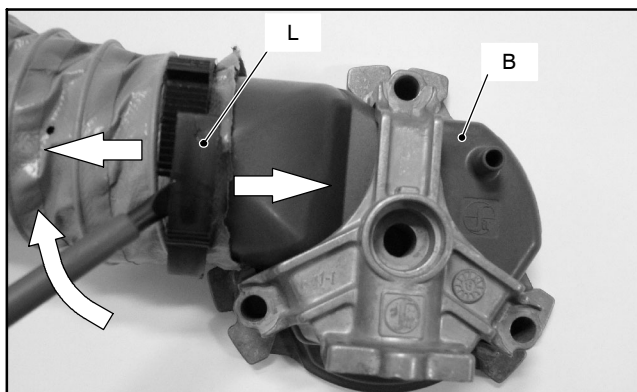

Fig. 17.4
- 12 Open the strip *L* by sliding the edges with the help of a screwdriver and remove the Air box (Fig. 17.4).